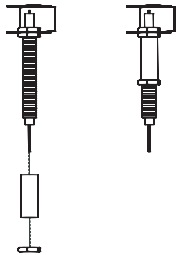

Figure 5
4. Slide ignitor spacers (11) onto collector box assemblies (10) and secure with nuts. See Figure 5.